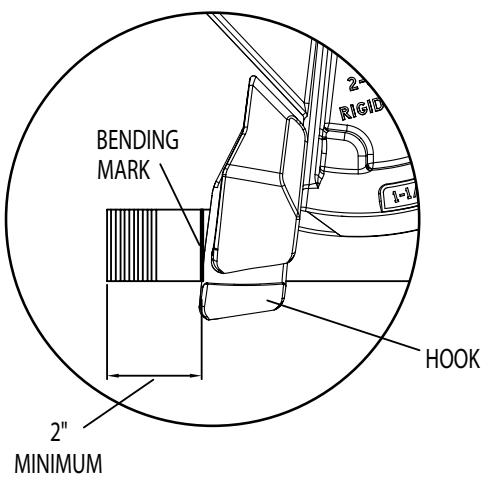

Figure 14c
2. Mark pipe/conduit to the desired length. Note that a 2" minimum distance from the end of the conduit to the bending mark is required to eliminate flattening the end of the pipe/conduit. See Figure 14c.
4. After marking the pipe/conduit, place it into the bender. The pipe/conduit should slide over the roller support and through the shoe groove and into the hook. The bending mark should be at the front (OUTSIDE) edge of the hook. See Figure 14c.